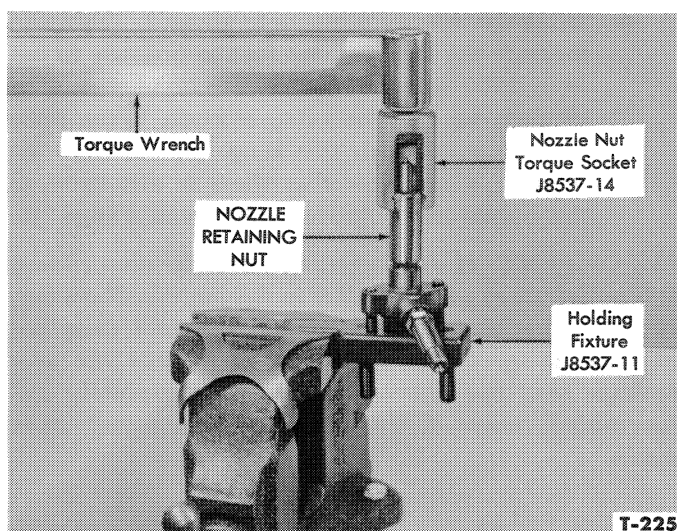

Figure 11—Removing Nozzle Retaining Nut
1. Secure the Holding Fixture J 8537-11 in a vise and place the injector in the fixture, Figure 11.
3. Remove the nozzle retaining nut with Nozzle Nut Wrench J8537-14, and remove the nozzle and valve, Figure 11.
2. Position the nozzle and needle valve on the injector body, making certain that the dowel pins in the body are installed correctly in the nozzle. Position the nozzle retaining nut over the nozzle and tighten to 50 ft. lbs. torque with Nozzle Nut Wrench J8537-14. It will be necessary to place the injector in the Holding Fixture J8537-11 while torquing the nozzle nut, Figure 11.